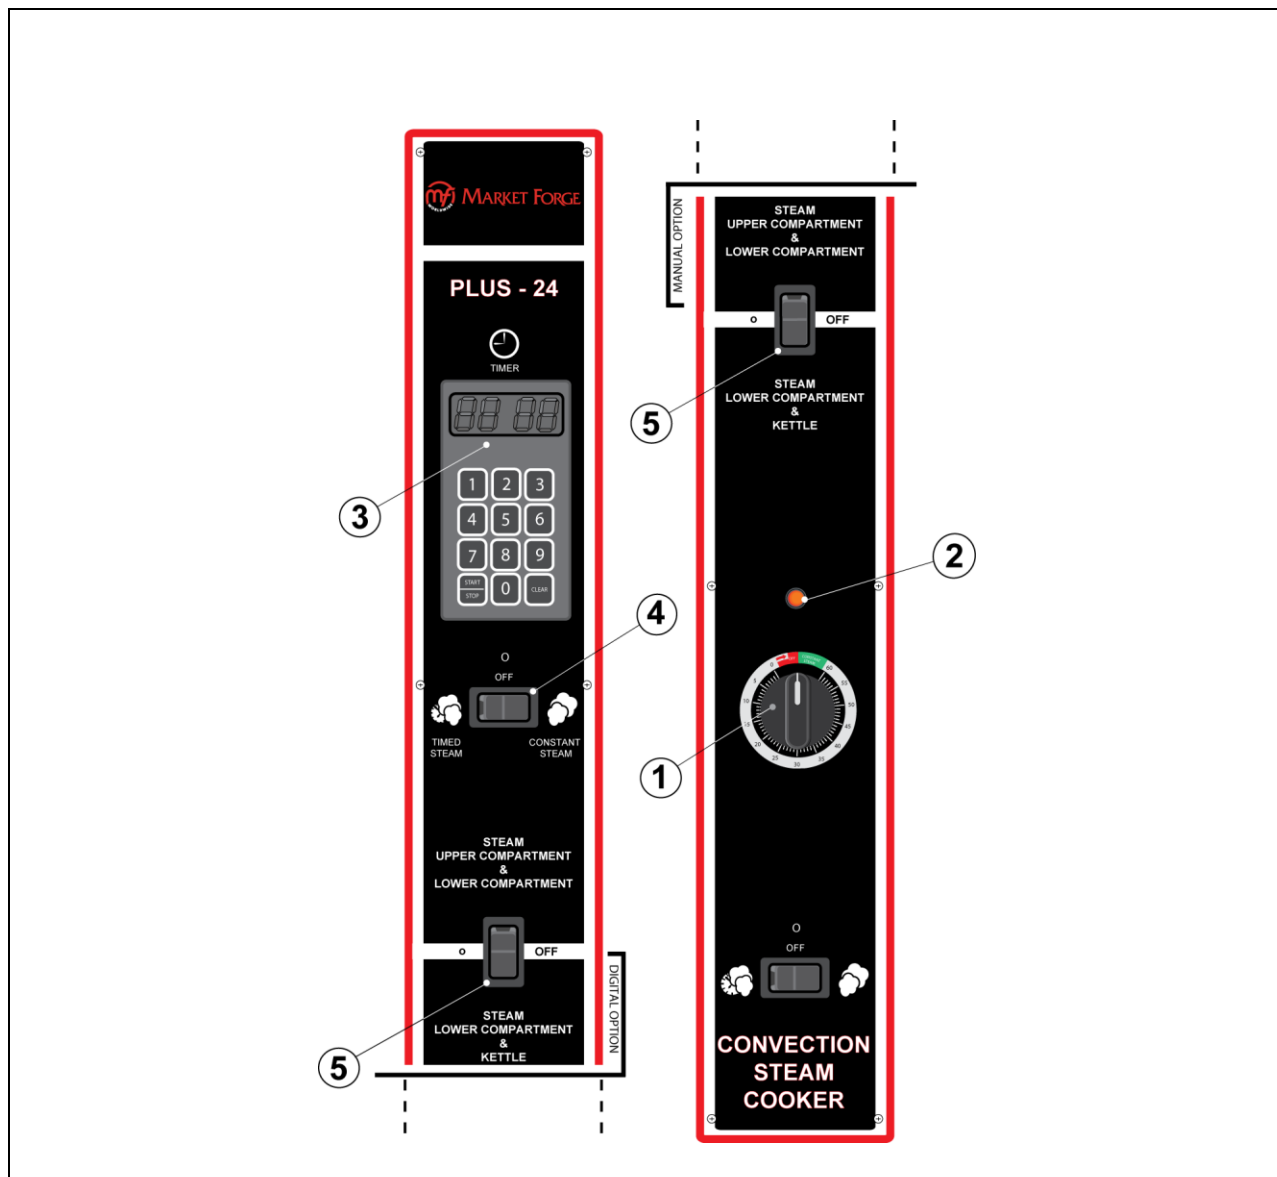

Figure 2, Controls and Indicators (ST-24 Control Panel)
Before making this check-out, the operator must be thoroughly familiar with the operating procedures and with the function of each control. Refer to the section on Operation and Figure 2, Controls and Indicators for identification of controls required in the following procedures.
2. Cooker timers for both compartments (*see Figure 2 on page 9*) are in the OFF position.
The controls and indicators required to operate the Pressureless Steam Cooker are listed in table on page 9, together with a short functional description of each. Figure 2 on page 9 shows the physical location of each control and indicator.